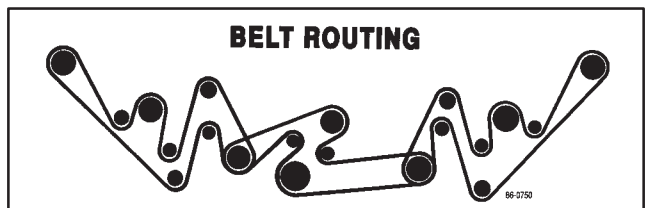

Figure 25
10. Route new belt around appropriate pulleys as shown in figure 25.